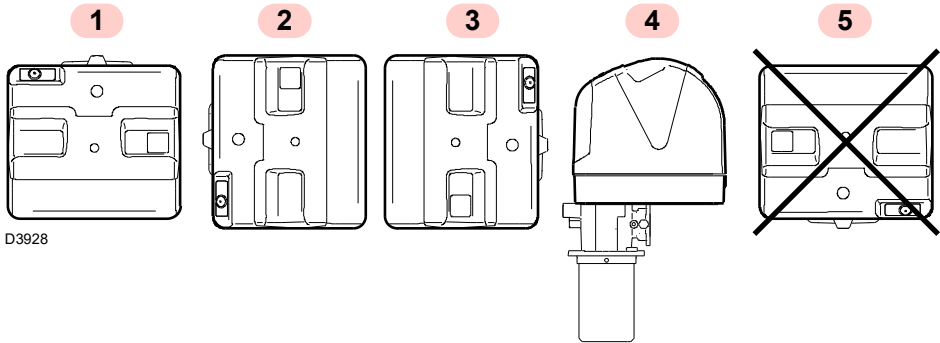

Fig. 8
- The burner is designed to operate only in positions **1**, **2**, **3** and **4** (Fig. 8).